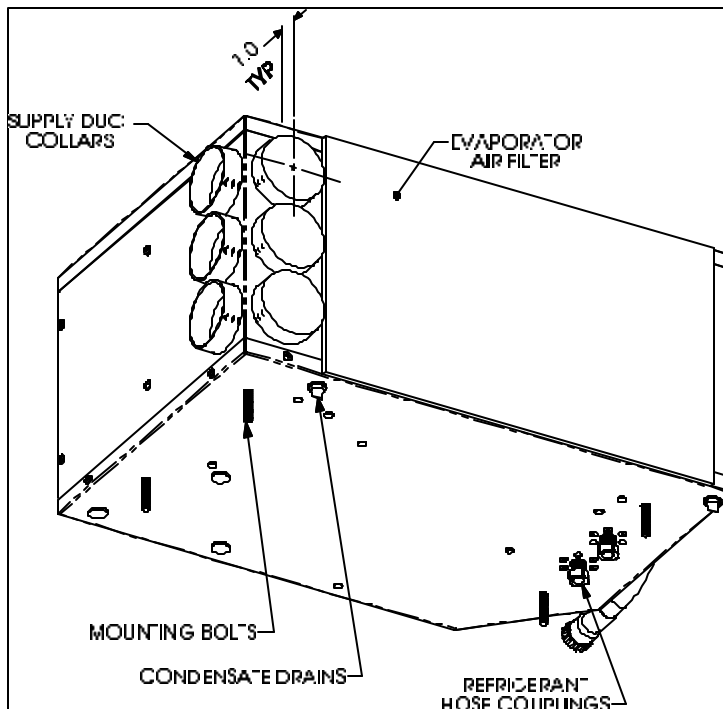
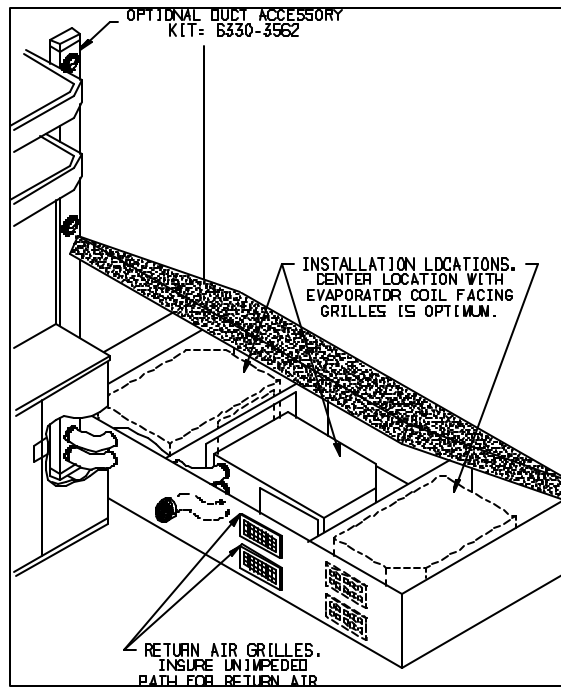

FIGURE 1
FIGURE 2
This system is designed to operate from a 115 VAC, 60 HZ, 1 Phase power supply. Verify that the air conditioner is receiving the proper power. Use the temperature differential table below to determine proper system operation and installation. Temperature readings **MUST** be taken at the evaporator inlet (Figure 1) and the air supply vent (Figure 2) using a digital thermometer or equivalent to record the readings.
3. Read the Compressor Amperage with an Ammeter on the Common Wire (Purple) to the Compressor (See Figure 1).